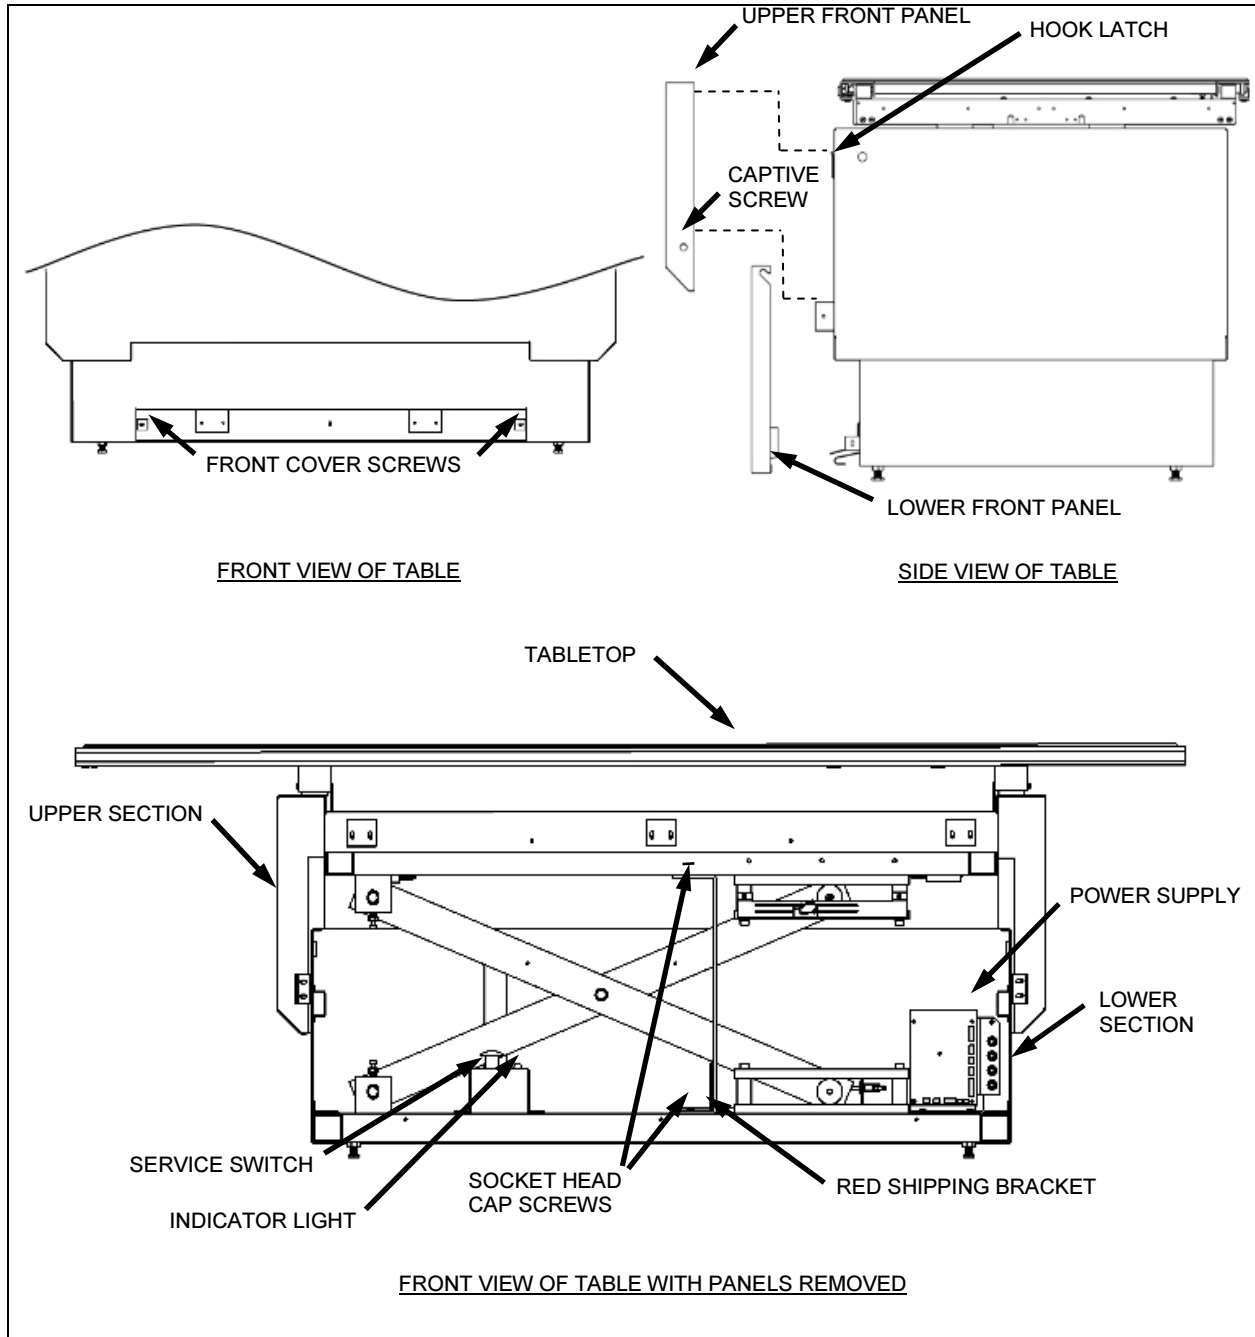

Figure 4: Panel Removal
1. Refer to Figure 4 and remove the decorative caps on the upper front panel and loosen the captive screws.
3. The lower panel is held in place by the front cover screws indicated in Figure 4. To remove the panel, remove the screws and pull the panel outwards away from the base of the table, lifting up and out to disengage the upper end of the panel.
2. Position the table and level it in both longitudinal and transverse directions, then remove the upper and lower front panels. (Refer to Figure 4, section 3.3.3)
2. Remove the upper and lower front panels. (Refer to Figure 4, section 3.3.3)